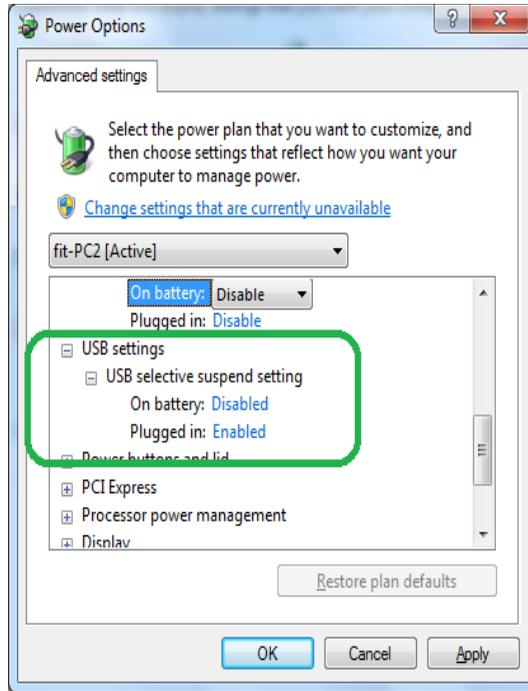

FIGURE 3-8 USB Settings
Step 6 On the **Advanced Settings** tab, expand **USB Settings** and **USB Selective Suspend Setting**. For the **On battery** entry, specify **Disabled** if not already selected; for the **Plugged in** entry, specify **Enabled** if not already selected. The settings are shown in Figure 3-8.